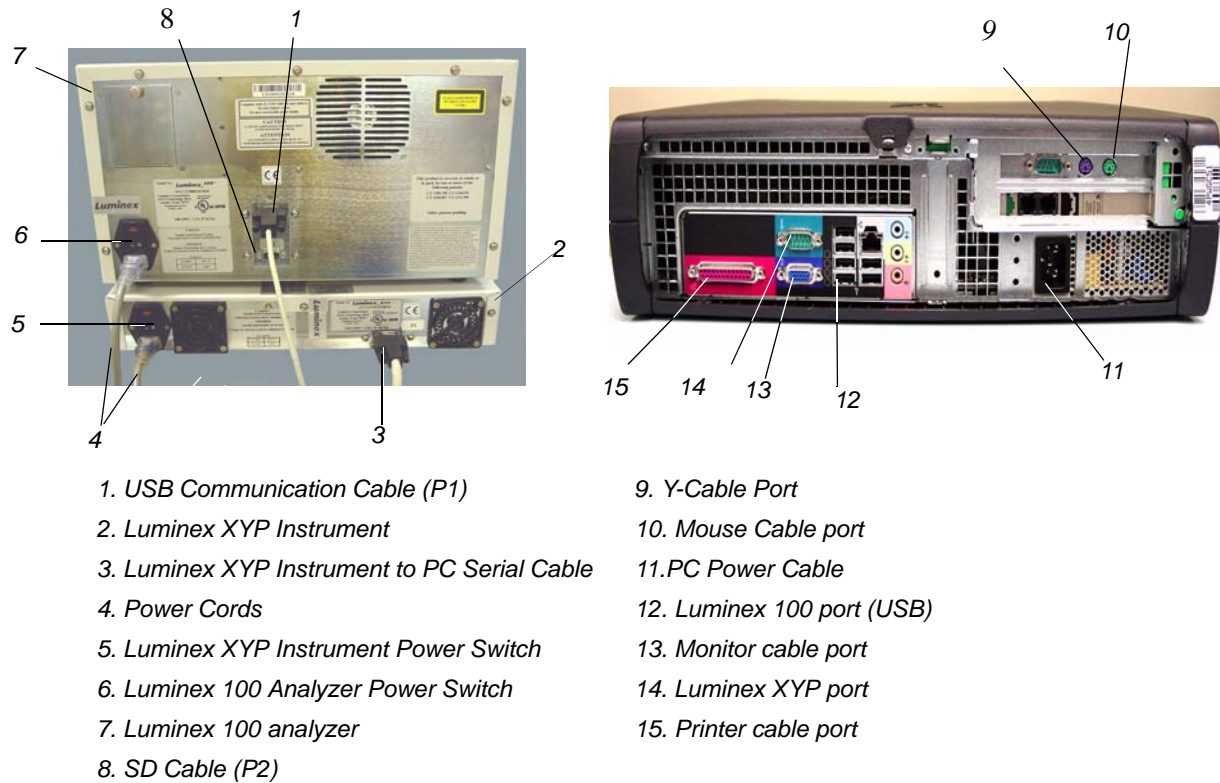

Figure B-4 Luminex 100 IS Connections (Luminex 100 analyzer, Luminex XYP Instrument, and PC)
9. Attach the power cord to the input module of the Luminex 100 analyzer, then attach the USB cable (PN 85-10011-00-046) to P1 on the analyzer. Do not plug the power cord into the power outlet. See Figure B-4.
10. Connect the Luminex 100 analyzer USB cable and the Luminex XYP instrument serial cable to the PC. See items 12 and 14 in Figure B-4.